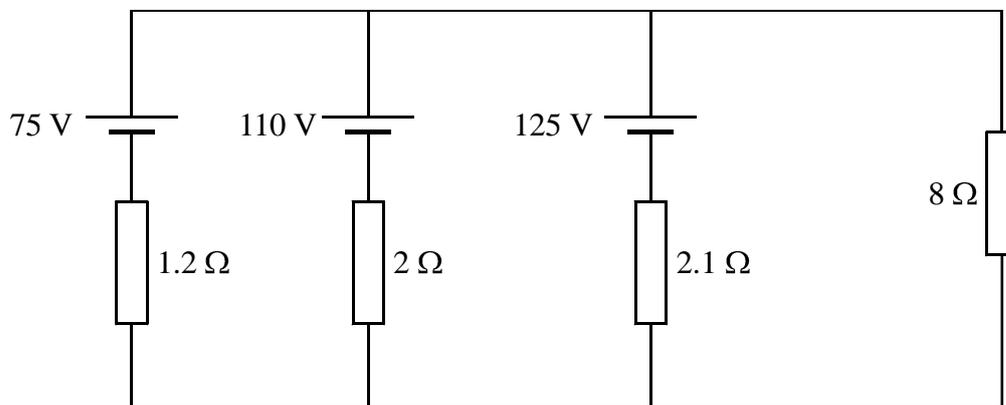

Fig Q1
1. For the circuit shown in Fig Q1, determine EACH of the following:
- (a) the current supplied by each battery; (10)
- (b) the voltage across the $8\ \Omega$ load resistor; (3)
- (c) the power dissipated in the $8\ \Omega$ resistor. (3)